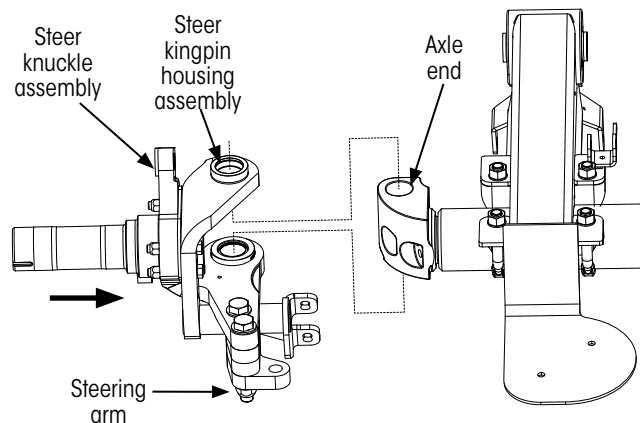

Figure 25: Steer knuckle installation (Axle configuration may vary)
20. Check alignment by sliding the new kingpin through both kingpin housings to ensure no binding is present (Figure 25).
1. **Thoroughly clean** the contact surfaces for the steering arm and tie rod end (Figure 15 on page 11). **Thoroughly clean** the hole in the axle end for the kingpin (Figure 25).
4. **Position** the steer knuckle (Figure 25) over the axle end and align to kingpin hole.